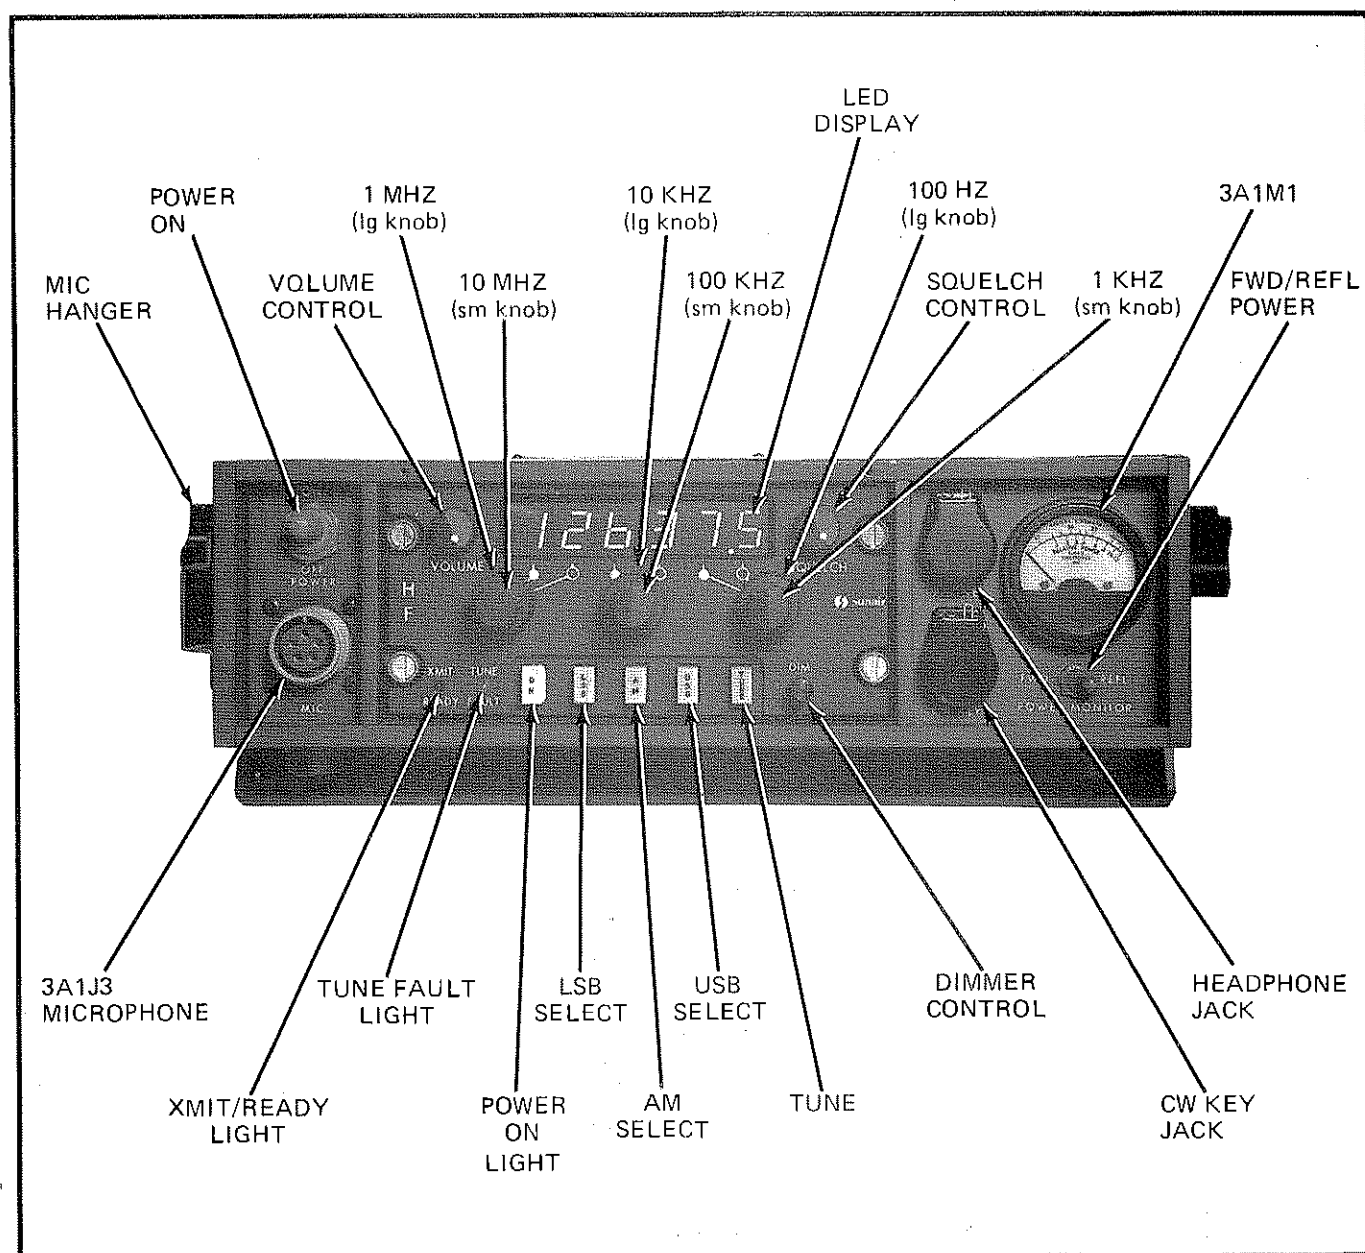

Figure 3.1 GRC-955, Front Panel
3.2.1 Listed below are description of all controls, indicators and connectors located on the front panel of the GRC-955 Remote Unit. They are illustrated in Figure 3.1.